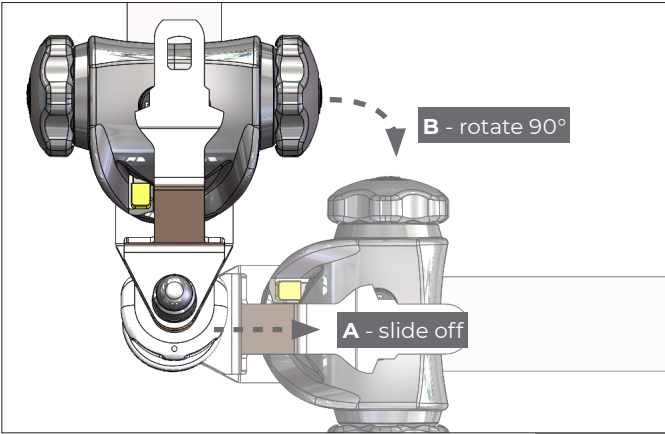

Figure 11
3. Install each front retractor clear onto a front Solo anchor (sprung or fixed) by aligning the open mouth of the cleat, (Fig. 12B), and the protrusion, (Fig. 12A), to the slot on the floor anchor. Slide the cleat fully home (allowing the keyway within the cleat to guide into its home position, Fig. 11A & 11B) and rotate the cleat through 90° to align the retractor with the wheelchair frame, (Fig. 11).
2. Remove each Quattro Solo from the anchor by rotating the tie-down through 90° so that the raised protrusion on the cleat is aligned with the indent on the floor anchors (Fig. 11). Slide off.